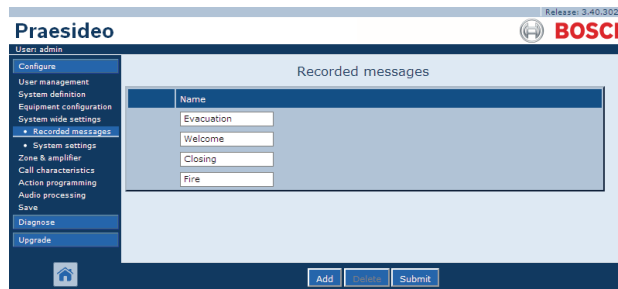

figure 45.5: Register message, step 4
- 4 Click the *OK* button to add the recorded message to the list of registered recorded messages. A screen similar to the one in figure 45.5 appears in the main frame of the web interface.